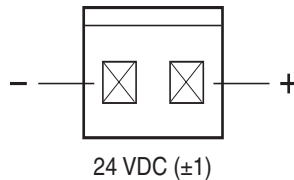

Figure 2: Power connector J1, pin view
1. Use a Molex 26-03-4020 shell and 08-58-0111 contacts to supply 24 volt current (3 amps recommended) to the connector marked J1. (see **Figure 2**). The motor can draw as much as 2.5 amps during the initial 50 milliseconds of movement, so make sure there is adequate power to prevent loss of power to other electronics.